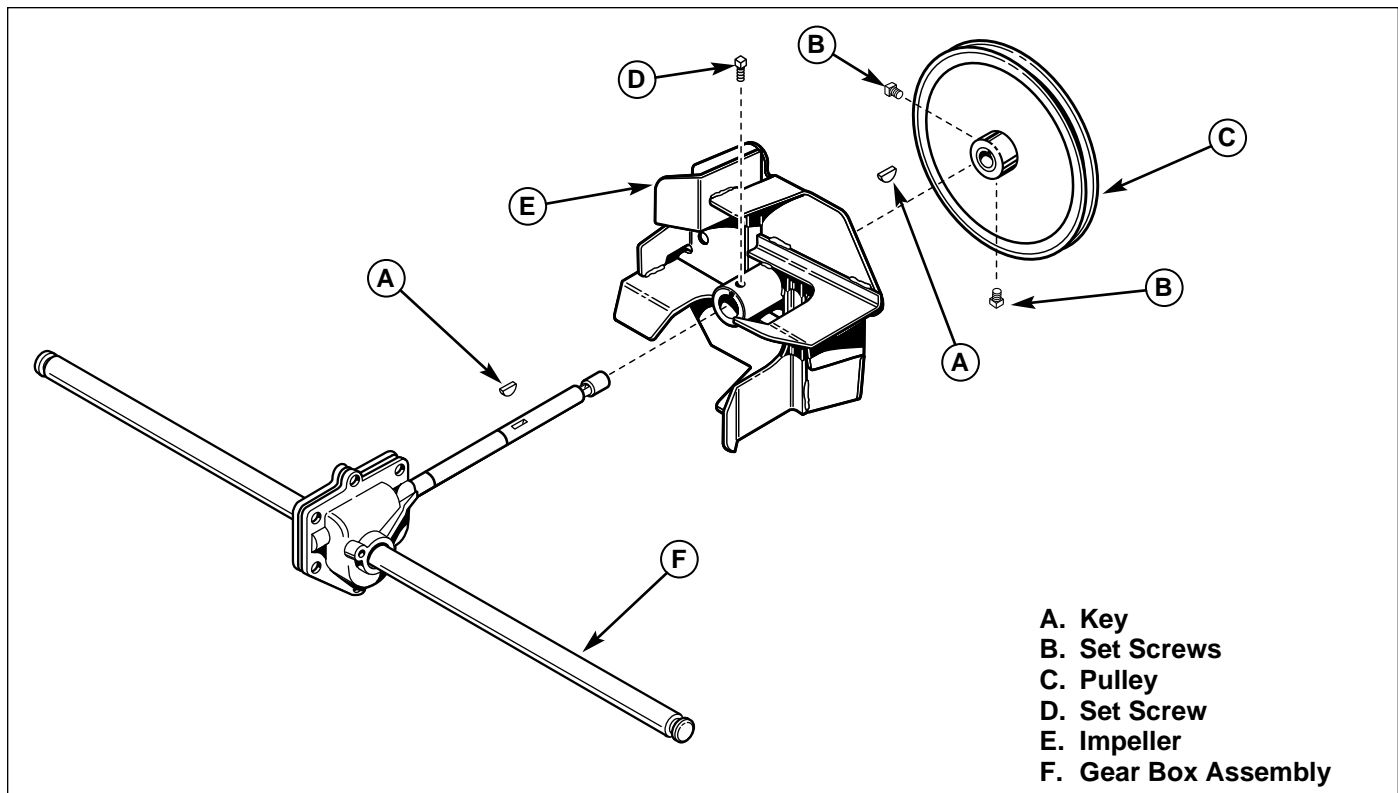

Figure 3. Auger Assembly
1. Remove the impeller set screw (D, Figure 3) and drive pulley set screws (B).
3. Remove the pulley (C).
4. Remove the key (A).
1. Reassemble the auger gearbox assembly, impeller (E, Figure 3), key (A), and pulley (C). Torque the three set screws (B, D) to 9-11 ft. lbs.